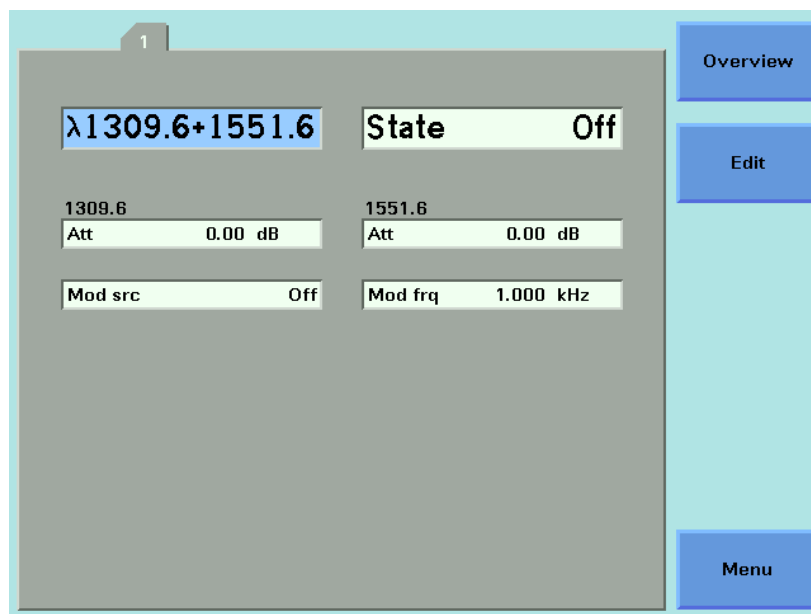

Figure 73 Dual-Wavelength Laser Source Outputs Both Wavelength
- 2 Select <1309.6+1551.6>, using the cursor key, and press *Enter*. You will see the screen in Figure 73 on page -125.